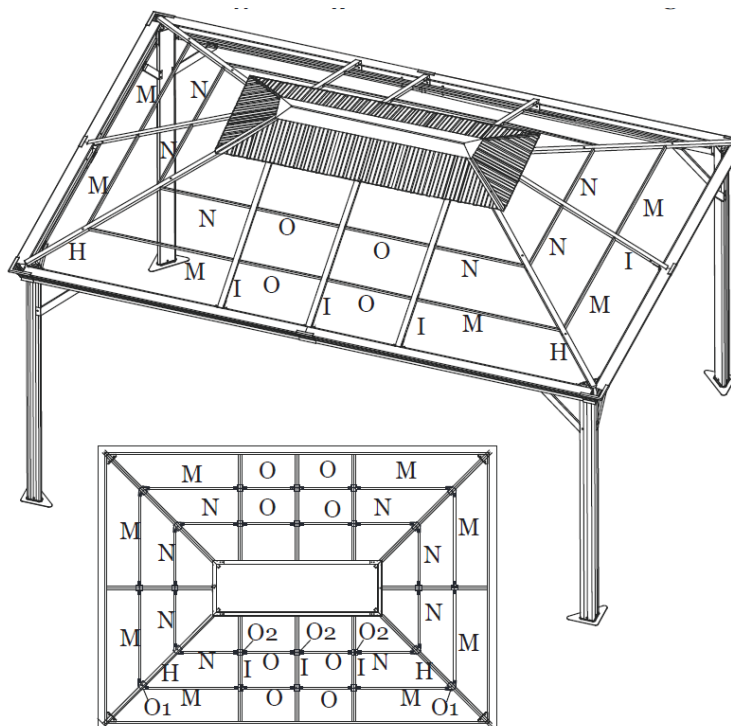

Figure 12-5
Step 12E: Repeat for all sides. **Tighten all Bolts.** See Figure 12-5.